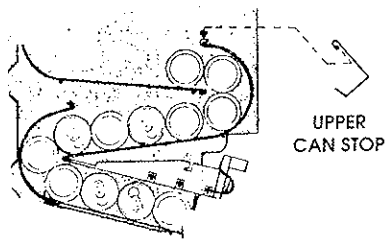

Figure 23
1. Insert the upper can stop (P/N 1211018) available from your local distributor or VendNet™, by hooking it over the rod and clamping it down around the can. See **Figure 23**.